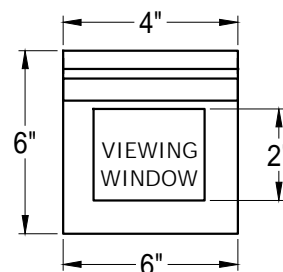

FIGURE 4
3. The meter shall be enclosed. The enclosing cover (top and front) shall be hinged or the top may be fixed in place if the front is removable. When the top is fixed in place, dimension "C" from TABLE 1 must be maintained. When the top and front are hinged, dimension "C" does not apply. If the sides are removable, dimension "A" does not apply. A hinged enclosing cover shall not exceed 25 pounds. A demand reset cover constructed of steel shall be provided. This cover shall have a hinged polycarbonate viewing window and comply with the minimum dimensions as shown in FIGURE 4.